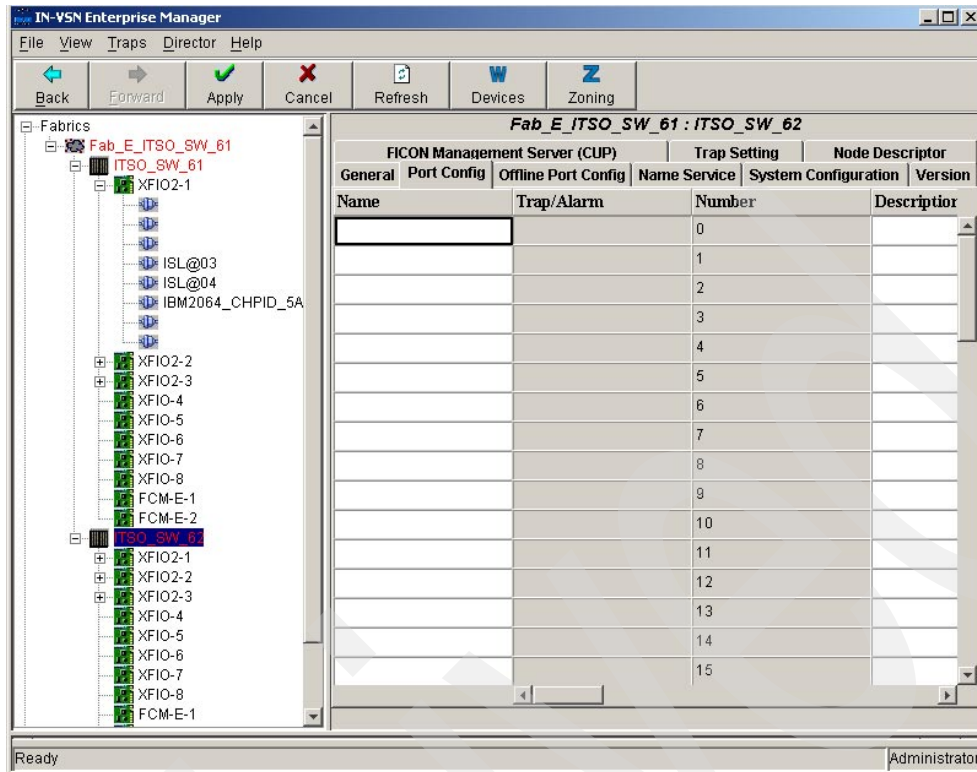

Figure 5-14 Port Configuration panel
2. Click the **Port Configuration** tab. The Port Configuration panel will be displayed as shown in Figure 5-14.